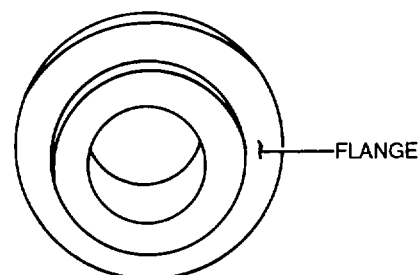
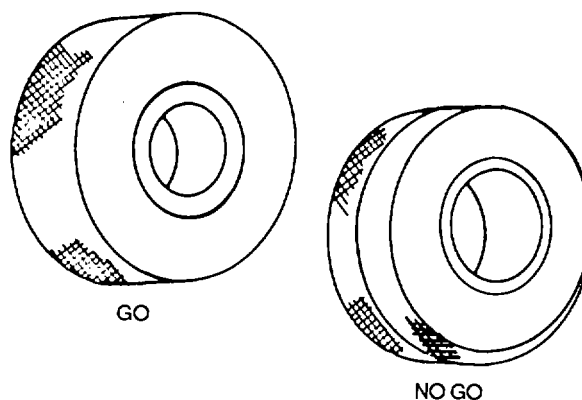

Figure 3-56. Flanged Ring Gauge
Figure 3-57. Ring Gauge Types
a. Description. The ring gauge is an external gauge of circular form. For sizes between 0.059 and 0.510 inch, ring gauges are made with a hardened bushing pressed into a soft body. The thickness of the gauge ranges from 3/16 to 1 5/16 inches. Ring gauges made for diameters of 0.510 to 1.510 inches are made in one piece, without the hardened bushing. Gauges ranging in diameter from 1.510 to 5.510 inches are made with a flange, as shown in figure 3-56, which reduces the weight and makes them easier to handle. There are two types of ring gauges; the GO and the NO GO gauges (see figure 3-57).
(1) GO ring gauges. GO ring gauges are larger than NO GO gauges. The outer surface of the ring is knurled.